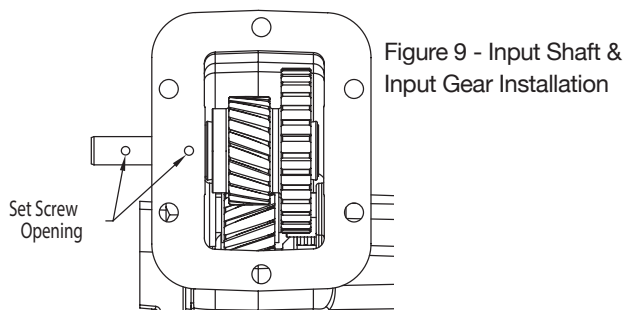
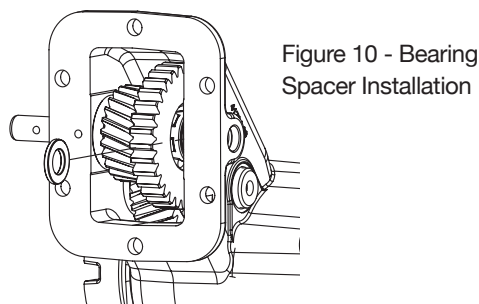

Figure 9 - Input Shaft & Input Gear Installation
Figure 10 - Bearing Spacer Installation
18. Place lubricated O-Ring's (26) into each of the grooves located on each side of the PTO housing (23).
19. Place the input gear (32) and tapered roller bearings (30) into the PTO housing and begin to tap in the input shaft (31) at the set screw side of the PTO housing (23) so the input shaft (31) will line up with the set screw once in place. See Figure 9.
20. Rotate the input gear 6 times to fully seat the tapered bearings. Continue to drive the input shaft (31) through the PTO housing until it is flush with the bearing in this assembly.
21. Insert the thickest bearing spacer (33) that can be installed by hand in the gap between the bearing and the housing. Remove the bearing spacer (33) and select the next thickest spacer and drive into the gap. Rotate the input gear (32) to make sure it properly rotates; the recommended bearing pre-load is .002"-.006" loose. See Figure 10.
22. When proper pre-load has been established, continue to install the input shaft (31) and then secure using the set screw (27). Torque the set screw to 5 ft.lb.